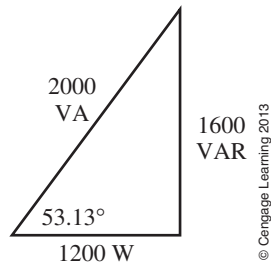

FIGURE 17–56
3. Figure 17–7: 0.6 (lag); Figure 17–8: 0.97 (lead); Figure 17–9: 0.6 (lag)